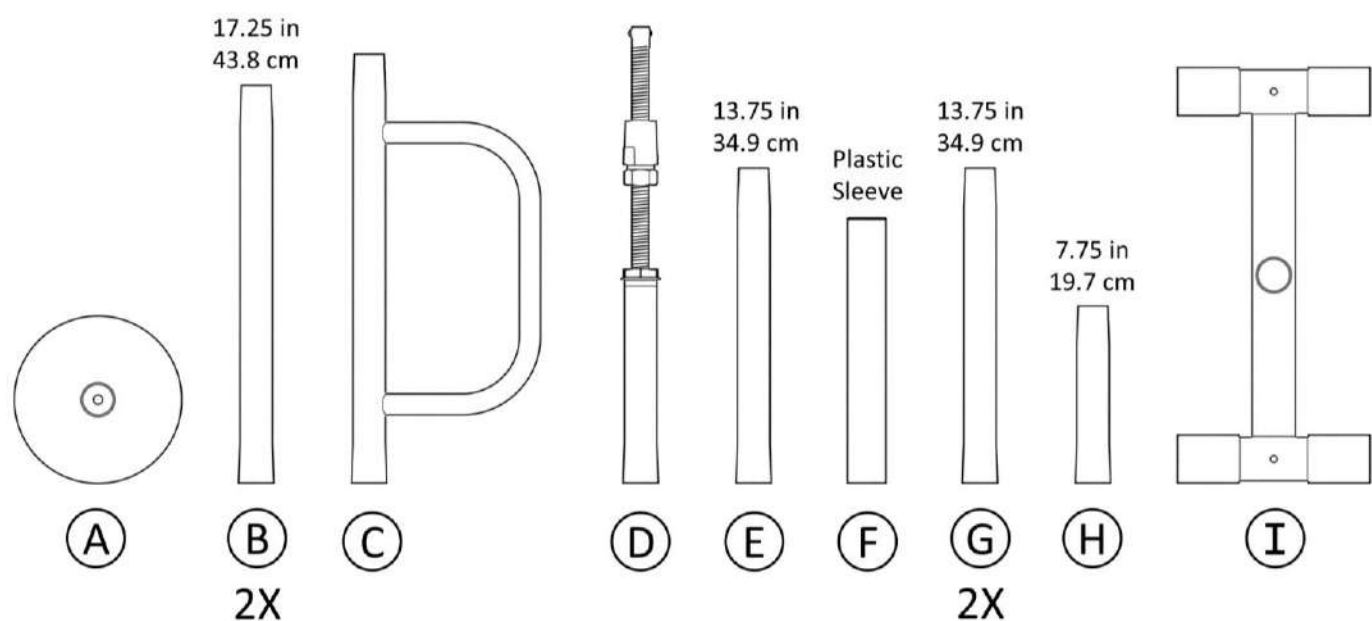

FIGURE 1
1. Remove product from box and identify all parts as shown in *FIGURE 1*. For extra security, see step 4 prior to assembly.